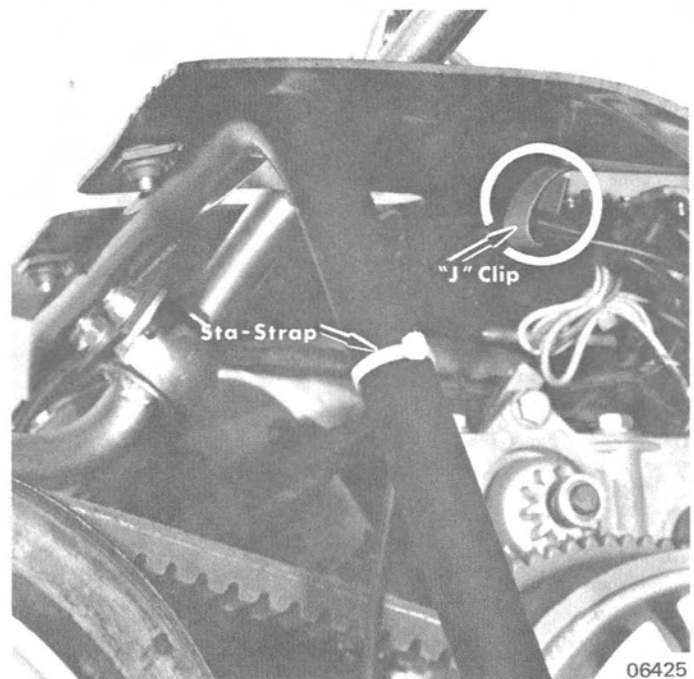

Figure 4. Sta-Strap Installed on Steering Support
- b. Fasten brake cable to steering support with one sta-strap, as shown in Figure 4.
- c. Secure throttle cable in "J" clip under front of terminal block. (Figure 4)